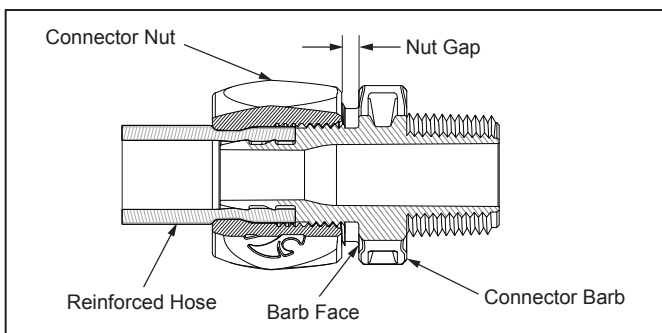

Figure 6. Tighten Connector Nut to Secure Hose
7. Slide/Rotate the connector nut to the barb to engage threads correctly, do not cross thread connector nut. Tighten the connector nut until threads are no longer visible (gap about 1/8" or just less than the width of two dimes), or until it touches the barb face. See Figure 6.
1. Verify that the installation is correct. Refer to Figure 6.